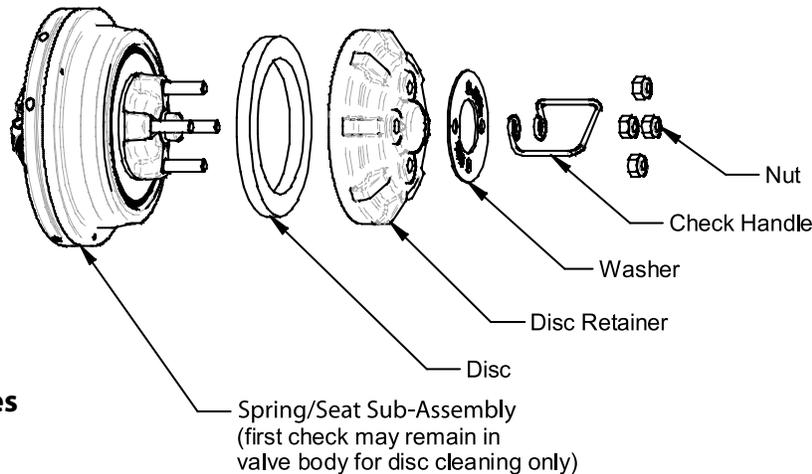

Figure 4
If only cleaning of the first check is necessary, simply remove the three (3) reusable locknuts for 2-1/2" & 3" valves / four (4) nuts for 4" & 6" valves on the black plastic disc retainer (See Figure 4). **SUGGESTION:** *Place a rag over the relief valve opening inside the valve body to prevent the locknuts from falling into the relief valve.* Remove the check handle and washer and lift the disc retainer and disc out of the body. Rinse the disc with clean water or replace if necessary. The disc may be flipped over for a temporary repair, but should be replaced if damaged. Replace the disc, disc retainer, washer, handle, and nuts. **Do not over tighten locknuts.**